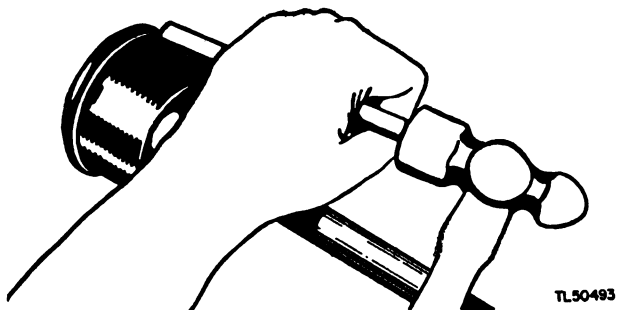

Figure 74. Disassembling breather.
b. **DISASSEMBLY** (fig. 74). (1) Remove the cover by tapping lightly with a blunt tool as shown, and remove the parts.
(2) Replace the sisal filter with new sisal. Be sure to pull the new sisal apart with the fingers to remove lumps and also prevent packing too tightly. If new sisal is not available, wash the old sisal thoroughly with Solvent, dry cleaning (Federal Specifications P-S-661a) and permit to dry. Replace the same as new sisal.